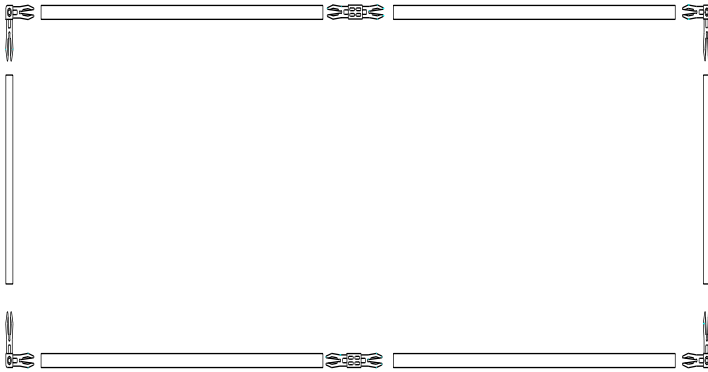

Figure 7: Diagram of 1 ft x 4 ft frame
- 1 Build the 1 ft x 4 ft frame structure as shown in Figure 7 using four 2 ft aluminum frame tubing pieces, two 1 ft aluminum frame tubing pieces, four right-angle tubing connectors, and two straight tubing connectors. Remember to construct the frame so that all Velcro surfaces face in (toward the center of the structure).